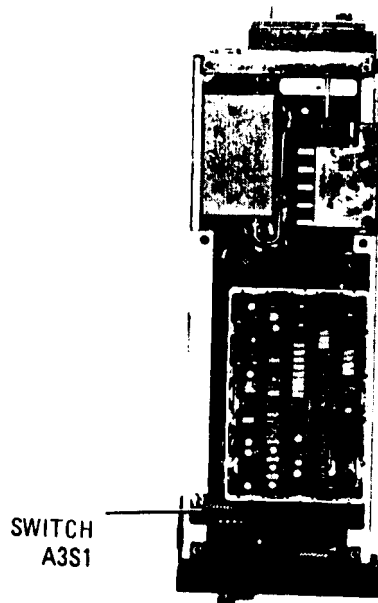

Figure 9. Switch A3S1 location.
(2) Set switch **A3S1** (fig. 9) position 1 to the **OPEN** (UP) position.